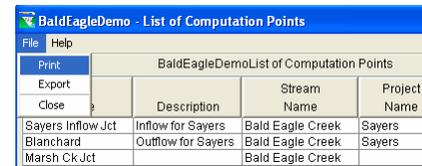
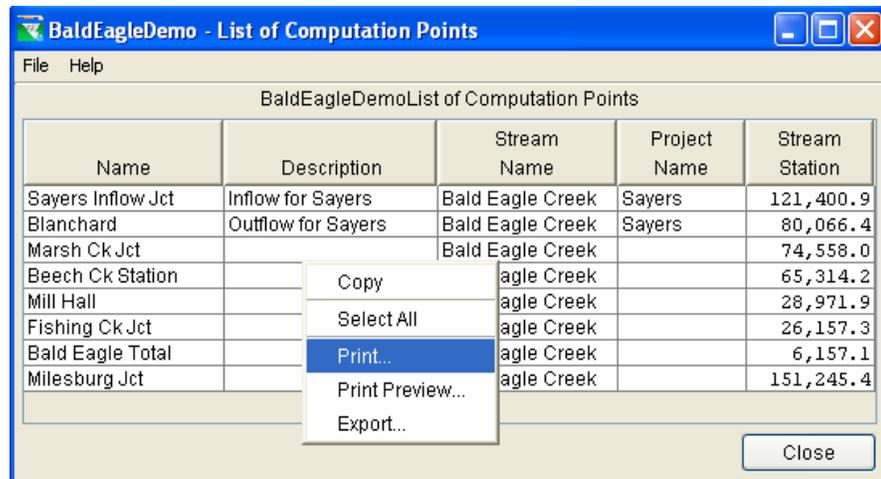

Figure 2.24 Select Print from Report’s File Menu
Figure 2.25 Select Print from Report’s Shortcut Menu
2. From the **File** menu of the opened report, select **Print** (Figure 2.24). Or, you can right-click anywhere within the tabulated data of the report and from the shortcut menu select **Print** (Figure 2.25).